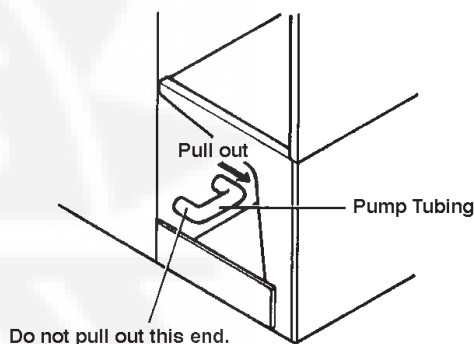

Fig. 4
- 7) Remove one end of the pump tubing and drain the water tank, (See Fig. 4) to flush any loose debris.